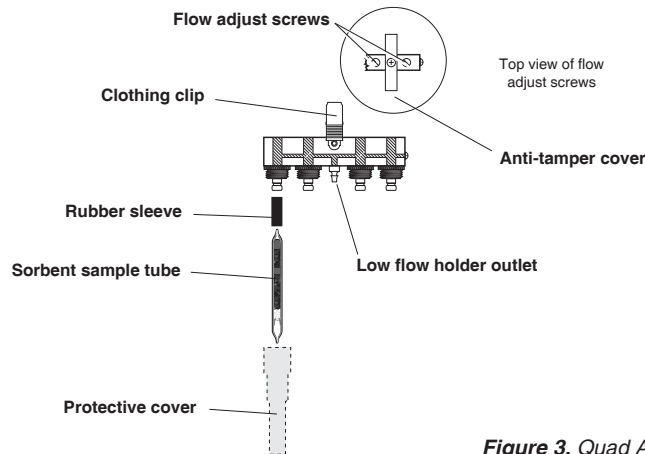

Figure 3. Quad Adjustable Low Flow Tube Holder
Using a CPC and Dual, Tri, or Quad Adjustable Low Flow Tube Holder (Figure 3)
5. Using a small screwdriver, loosen and turn the brass flow adjust screw (see above right) directly beneath the port holding the first active tube to be calibrated (**clockwise** to increase, **counterclockwise** to decrease) until the calibrator indicates the method-specified flow rate. **Do not adjust the flow rate on the pump.** Note: For tri and quad models, first rotate each anti-tamper cover to expose the flow adjust screws, then adjust the appropriate one until the calibrator indicates the desired flow (Figures 3 and 5).